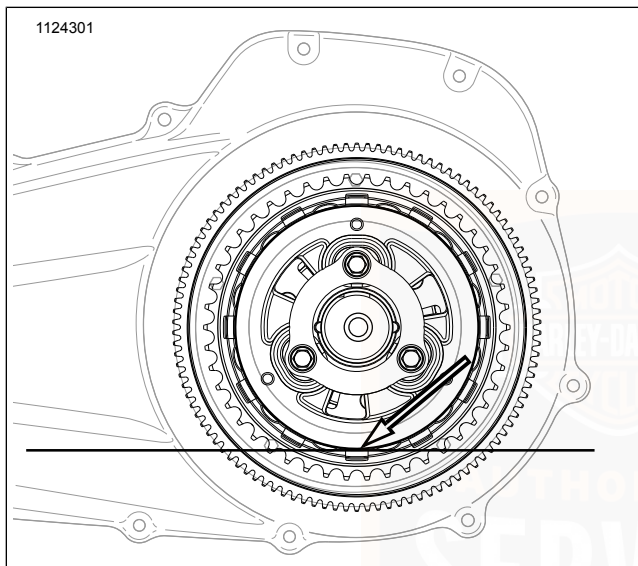

Figure 70. Primary Lubricant Level
- b. See Figure 70. Proper level is approximately at bottom of pressure plate OD.